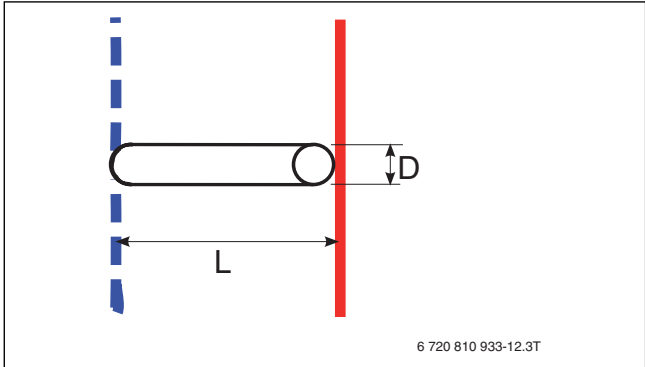

Fig. 7 Vista detallada del bypass (→ [1] [ASE/ASB] fig. 5 y 6)
- [1] Bypass (→ fig. 7) (→ [1] tab. 13)